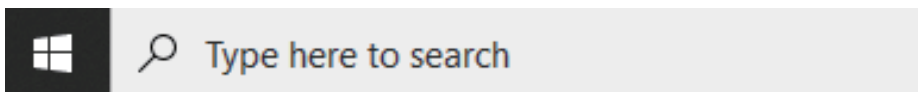

Figure 5.1
(2) Verify the IP address of the PC: Enter cmd in the search box (as shown in Figure 5.1), open a command window, directly ping the IP address of the Robotic Arm entering doc command line: ping 192.168.1.XXX, which can send and receive data packets successfully (as shown in Figure 5.2);